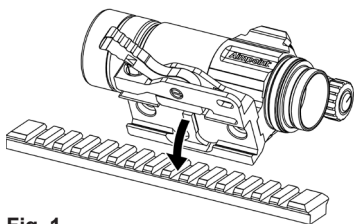

Fig. 1
- 1 Lift the lever (2) up to release it and set to open.
- 2 Position the recoil stop (3) in a groove to be used on the rail and install the mount. See Fig. 1.